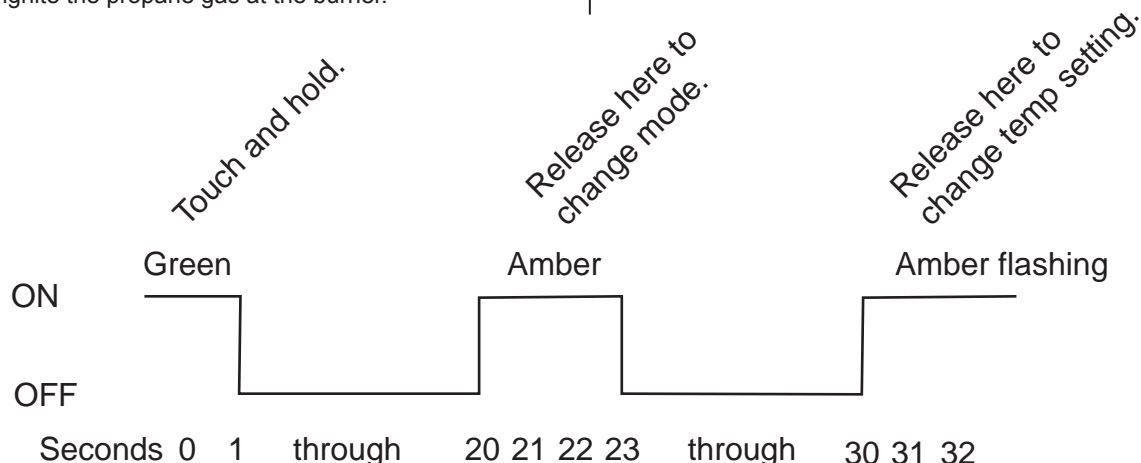

Fig. 12 - Change mode and temperature setting
- Touch and hold the Power ON / OFF button for between 20-23 seconds to change the mode between Auto Mode and Manual Propane Gas Mode (See Fig. 12).
The user interface (controls) has three (3) temperature settings. The temperature setting can be changed within the temperature set mode of the user interface (controls). To enter the temperature set mode (See Fig. 12):
Should none of the heat source inputs be available, the power ON/ indicator light (See Fig. 12) will be solid RED.